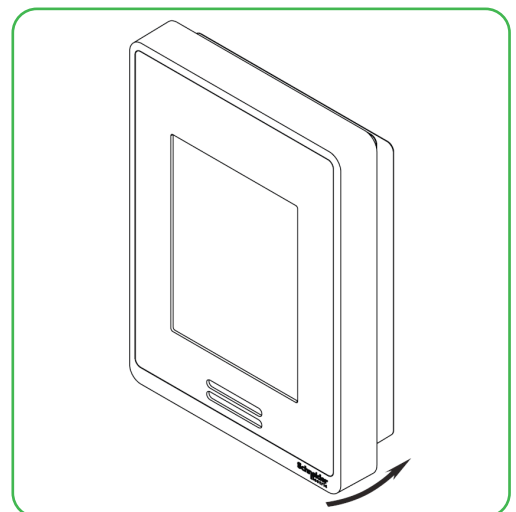

Figure 3 Reinstall cover
13. Gently align cover to top of base and snap in place from bottom (Figure 3).